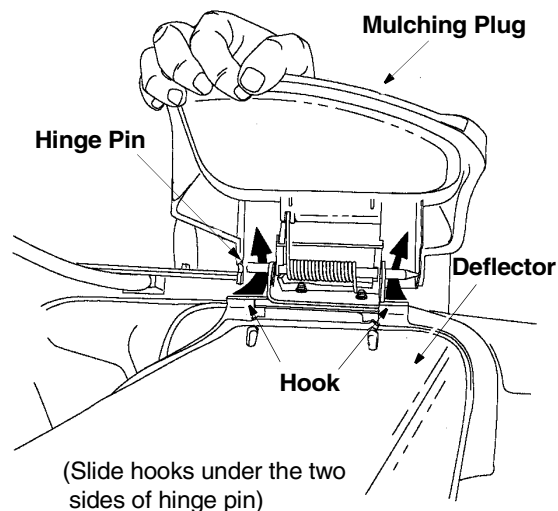

Figure 12
- On the side of the mower, lift the mulching plug. See Figure 12.